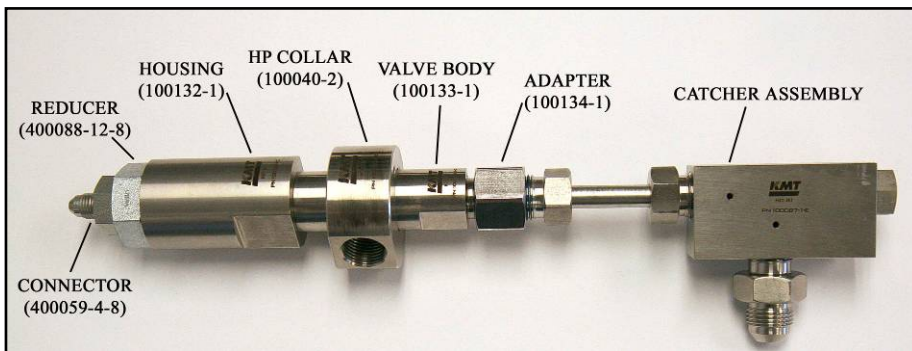

FIGURE 1
30. Install the assembled Bleed Down Valve (**Reference Figure 1**) onto the pump frame by bolting the High Pressure Collar (100040-2) to the frame. Install the high pressure inlet tube, the water drain line, and the hydraulic hose.